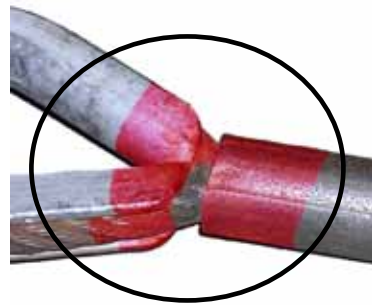

Figure 2. Paint showing slippage
- a. Inspect swage and wire rope eyes for slippage. If slippage has occurred, see figure 2, dispose of the leadline. See Section H, Salvage.